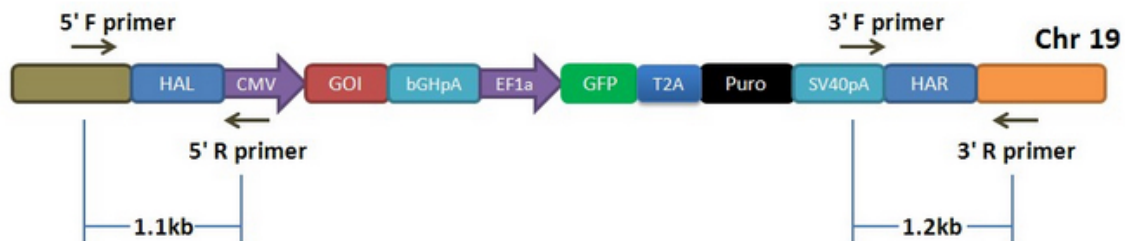

Figure 2. Junction PCR primer design strategy.
1. Design PCR primers that flank both donor:chromosome junctions (Figure 2). At the 5' or "left" junction, the forward primer must recognize sequence from the chromosome outside of the region of homology with the plasmid. The reverse primer target sequence will only be found in the plasmid (for example, from the drug resistance gene). Conversely, at the 3' or "right" hand junction, the forward primer target sequence will only be found in the plasmid (for example, from the drug resistance gene), while the reverse primer must recognize sequence from the chromosome outside of the region of homology with the plasmid.